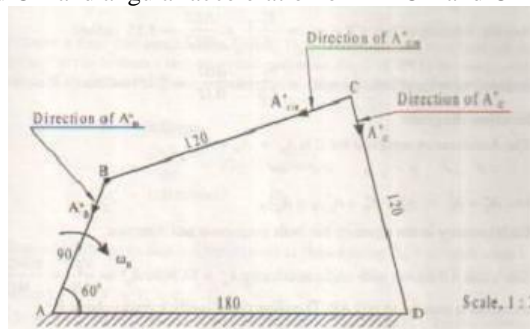

Fig. 2.4
4. A four bar mechanism ABCD is made up of four links, pin jointed at the ends. AD is fixed link which is 180 mm long. The links AB, BC, CD are 90 mm, 120mm and 120mm respectively. At certain instant, the link AB makes an angle of 60 degree with the link AD, if the link AB rotates at uniform speed of 100 rpm clockwise determine angular velocity of links BC and CD and angular acceleration of link CD and CB as shown in fig 2.4